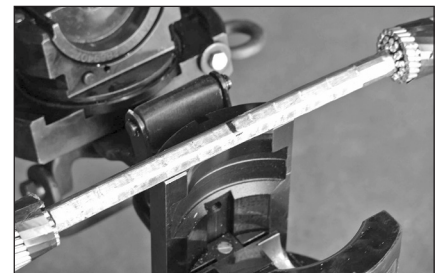

FIGURE 7b: Overlap each compression on Steel sleeve $\frac{1}{4}$ inch (6.4 mm).
7. Using the proper SH die set, compress steel sleeve full length making initial compression over center of sleeve (**Figure 7a**). Overlap each successive compression by at least $\frac{1}{4}$ inch (6.4 mm) (**Figure 7b**). Complete die closure is required on all compressions.